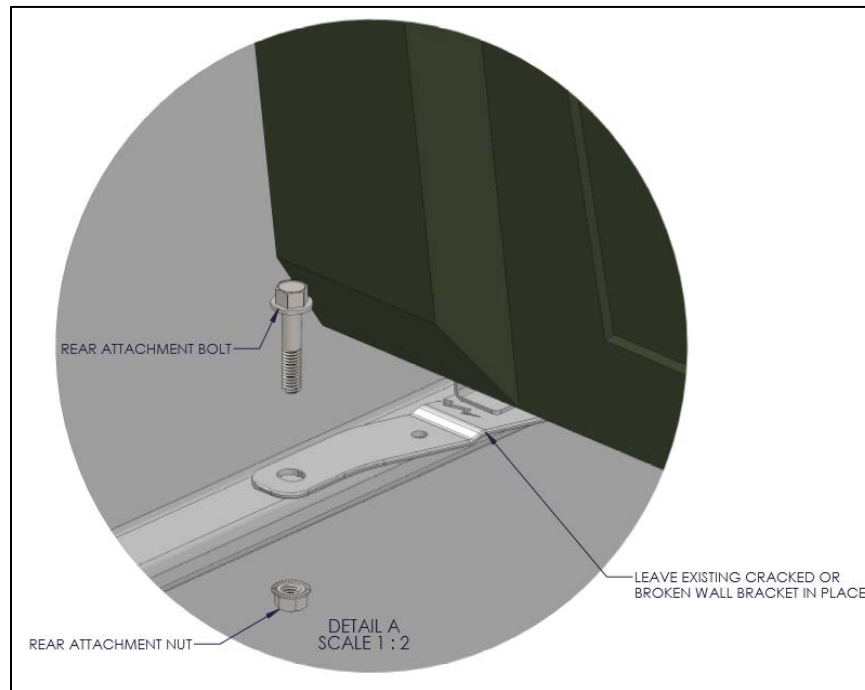

Figure 2: Seat Rail Nut and Bolt
4. Remove the rear seat rail nut and bolt using a 9/16 inch socket, swivel adaptor, and an open-end wrench. See **Figure 2**.